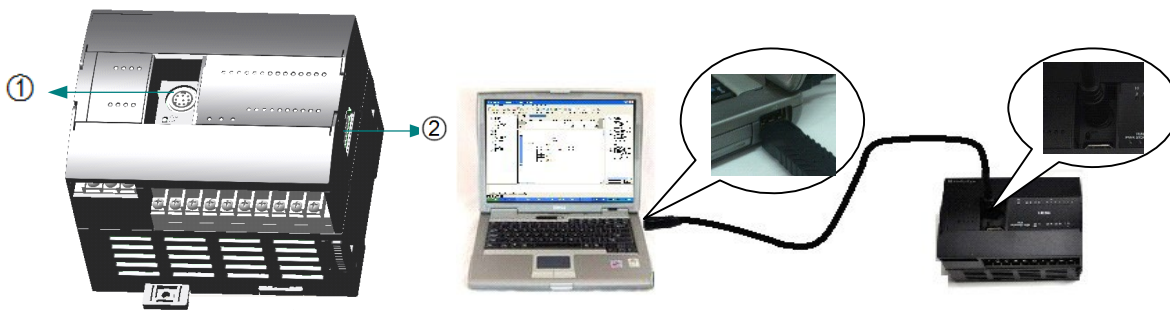

Figure 26 Communication Connection Diagram
achieved through PS/2 (at ① in Figure 26), junction and communication between CPU module and expansion module are achieved through connector (at ② in the Figure 26).